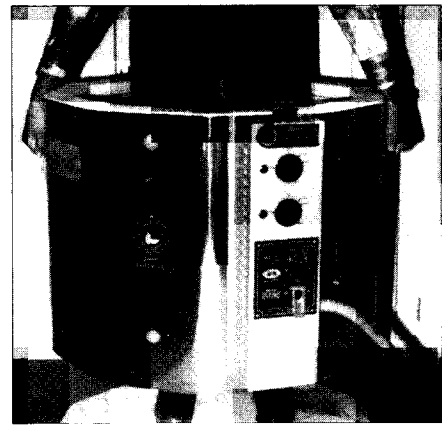

Figure 53
8. Stand inside kiln and pull up on case handles to free kiln from bottom (see Figure 53).